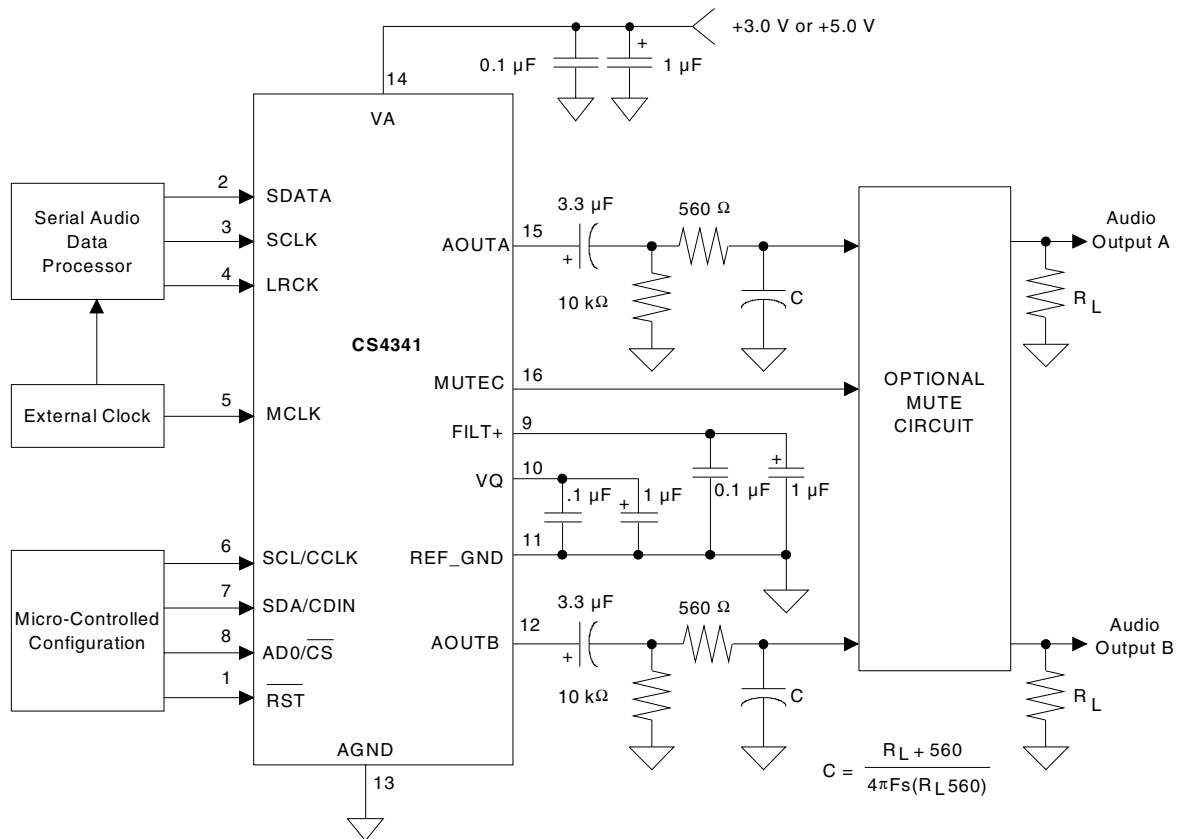

Figure 16. Typical Connection Diagram
14. Valid with the recommended capacitor values on Filt+ and VQ as shown in Figure 16. Increasing the capacitance will also increase the PSRR.
As with any high resolution converter, the CS4341 requires careful attention to power supply and grounding arrangements if its potential performance is to be realized. Figure 16 shows the recommended power arrangements, with VA connected to a clean supply. If the ground planes are split between digital ground and analog ground, REF_GND & AGND should be connected to the analog ground plane.